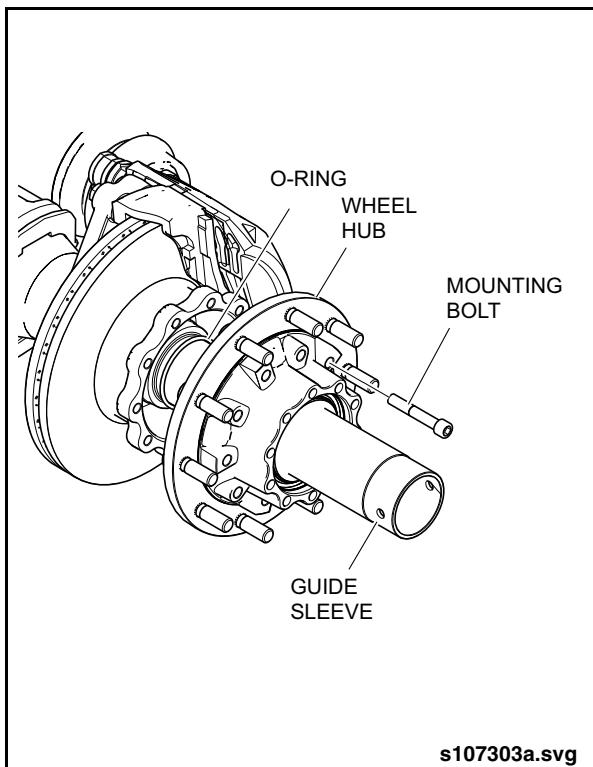

Fig. 2-17: Removing Wheel Hub
2. Install threaded Guide Sleeve (Item 13 from special tools list) onto the axle stub and lubricate guide sleeve surface. See "Fig. 2-17: Removing Wheel Hub" on page 20.